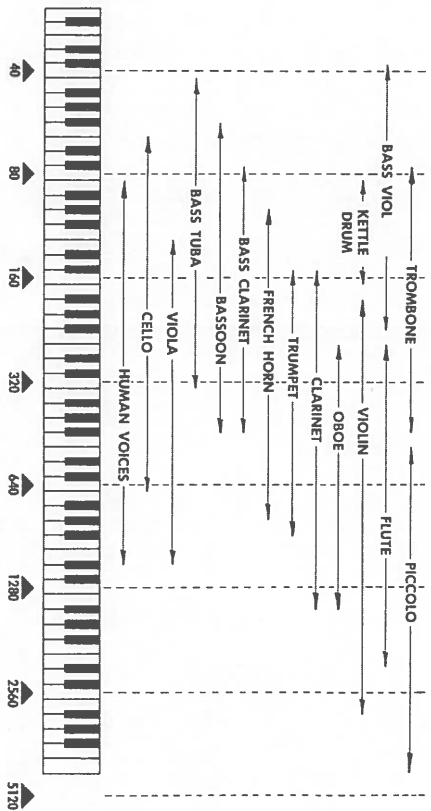

Fig. 5
- A Look at the musical scale chart shown in Fig. 5 and note the range of fundamental tones possible from various instruments and voices. If, for instance, a Cello is playing notes in the octave above middle C and the 320 cps control is advanced, the notes will sound louder. If no other instruments are sounding notes in the same range, the Cello will be brought out. By reducing the setting of the 320 cps knob, you will diminish the Cello sound.